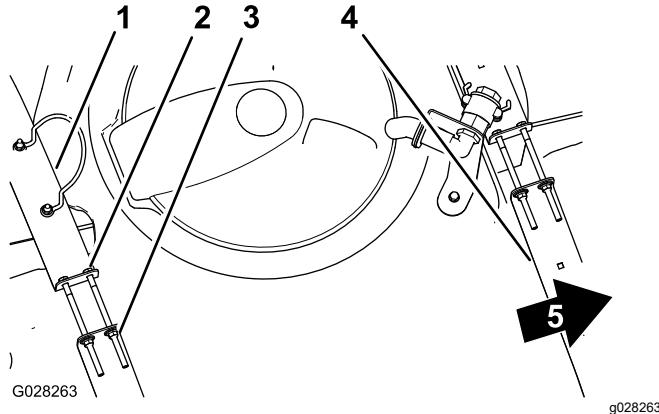

Figure 26
2. Check to see if there is any movement between the tank straps and the tank (Figure 26).
3. If the tank straps fit loose to the tank, tighten the flanged locknuts and bolts at the top of straps until the straps are flush with the surface of the tank (Figure 26).